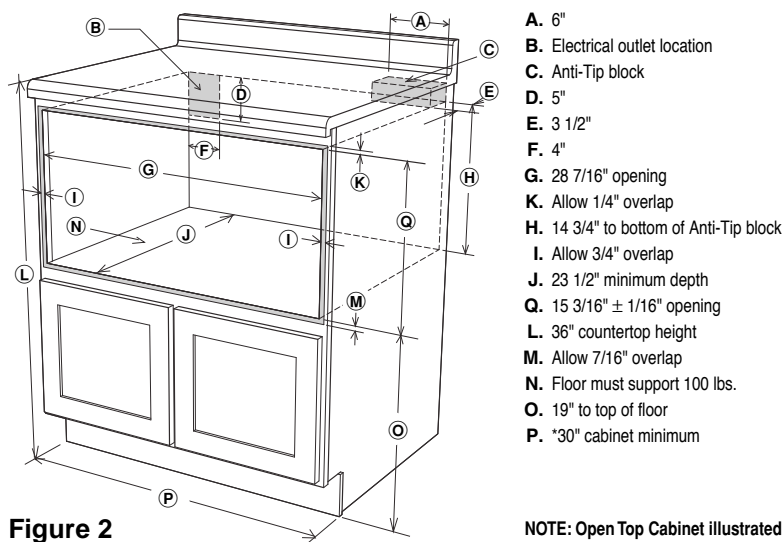

Figure 2
For SAFETY CONSIDERATIONS do not install drawer in any combustible cabinetry, which is not in accord with the stated clearances and dimensions on pages 4 and 5. See **Figures 2 and 3**.
- Dimensions that are shown in **Figures 2 and 3** must be used. Given dimensions provide minimum clearance. Locate electrical outlet in the shaded area in the upper left-hand corner of the cutout.
Figures 2 and 3 contain many Microwave In-A-Drawer™ measurements for reference when planning the drawer's location.
To reduce the risk of tipping of the drawer, the Anti-Tip block must be properly installed located 14 3/4" above the floor on which the Microwave In-A-Drawer™ will sit. The 6" Anti-Tip block must be provided by the installer. See Figures 2, 3 and 4. The Anti-Tip block prevents serious injury that might result from spilled hot liquids.